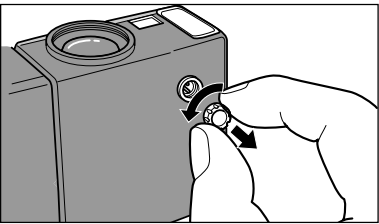

図 1/Figure 1/Abbildung 1/Figure 1/ Figura 1/Figur 1/Figura 1
- After turning off the camera and Speedlight, remove the terminal cap from the camera (Figure 1).